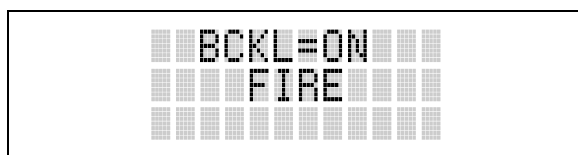

Figure 8-8: Backlight Menu Display
3. Press **[M]**. The backlight menu item is activated. Line one shows the active menu item and its current parameter setting. Line two shows the currently selected system or group name (see Figure 8-8).